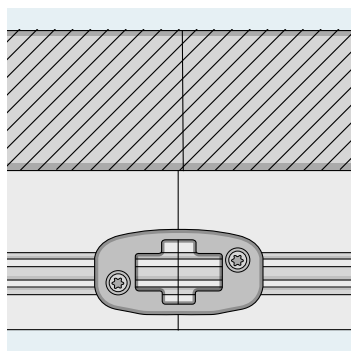

Figure 12: Illustrates how the strike plate secures the threshold on both sides of the joint
13. Fasten the striking plate by screwing in the two included screws. There is a groove in the aluminium threshold where the screws should be placed (figure 12).